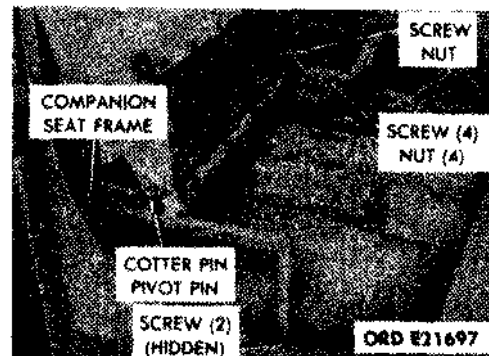

Figure 2-219.6. Companion seat removal.
a. *Removal* (fig. 2-219.6). Lift up the companion seat cushion. Remove the two screws securing the companion seat frame legs to the floor, remove the four safety nuts and screws securing the seat frame to the driver's seat base, and remove the seat.
b. *Installation* (fig. 2-219.6). Place the companion seat on the floor. Secure the seat frame to the driver's seat base with four hex-head screws and safety nuts. Secure the seat frame legs to the floor with two hex-head split lockwasher screws.
a. *Removal* (fig. 2-219.6). Remove the two cotter pins and the pivot pins of the two safety nuts and screws holding the seat cushion hinges to the seat frame. Lift up the seat cushion. Remove the safety nut and screw holding the cushion to the seat cushion link, and remove the seat cushion. Pull up and pull out the bottom rear edge of the backrest cushion, and pull the cushion from the backrest frame.
b. *Installation* (fig. 2-219.6). Seat the top rear edge of the backrest cushion under hooks on the top edge of the backrest frame. While pulling up on the cushion, press the cushion back to seat the lower edge in the frame. Install the two pivot and cotter pins or two hex-head screws and safety nuts through the seat and frame hinge to secure the seat. Lift up the seat and secure the cushion to the seat cushion link with a hex-head screw and safety nut.
*(1) Removal.*